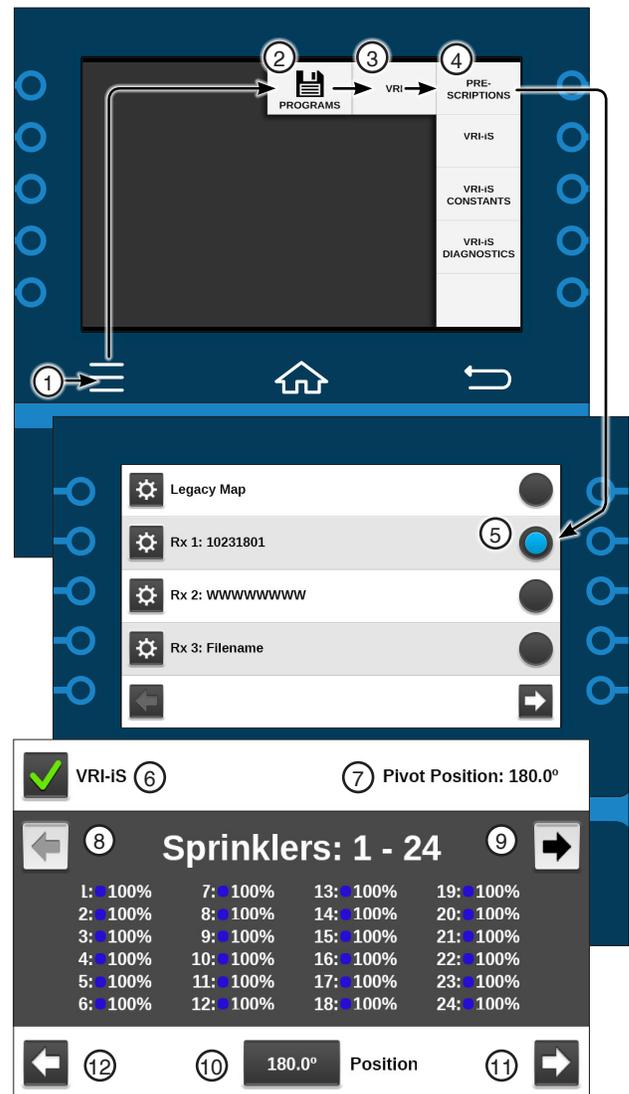

Figure 177-1 1. Menu 7. Pivot Position
1. Push **Menu**, **Programs**, **VRI** and **Prescriptions**. The VRI-iS Prescriptions screen displays. Push the button that corresponds to the desired prescription. If the desired prescription is not listed, use the Next and Previous navigation arrows on the bottom of the screen to locate it. Refer to Figure 177-1.